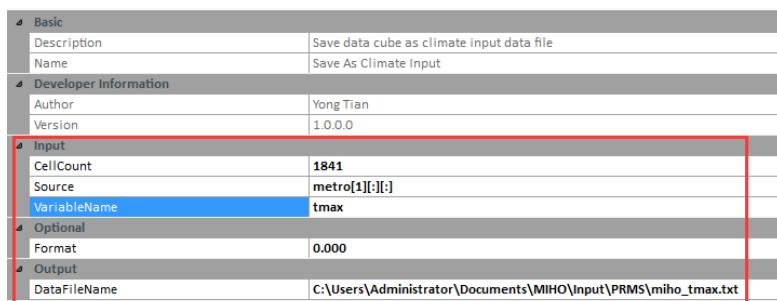

Figure 6-7 Settings used to generate the Maximum Temperature input file.
- 9) Change the input and output of the Save As Climate Input tool according to Figure 6-7 to save Maximum Temperature input file.